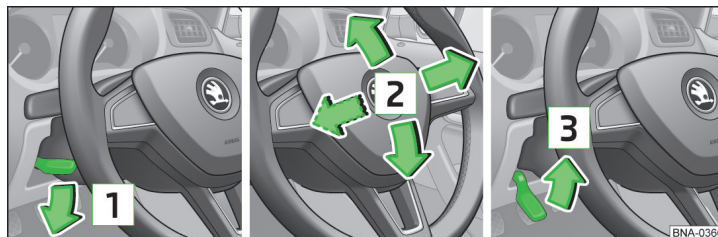

Fig. 2 Setting the steering wheel position
- » Swivel the safety lever underneath the steering wheel in the direction of arrow **1** » fig. 2.